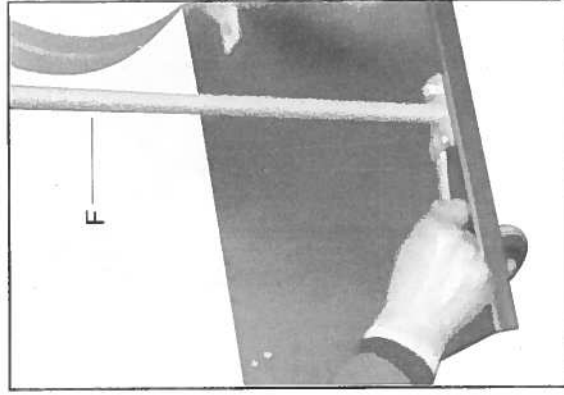
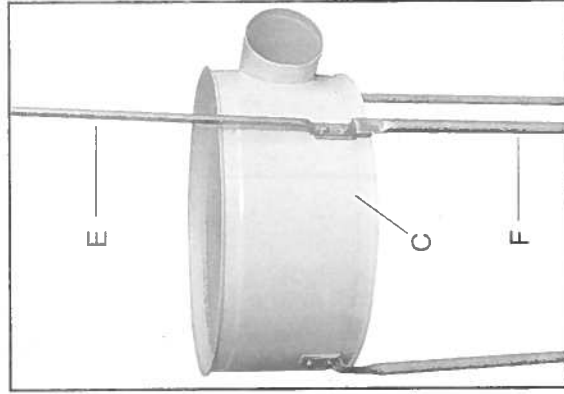

Fig. 5
Fig. 6
The collector rim supports (F) can now be mounted to the base plate as shown in Fig. 5 and Fig. 6.
Now attach the collector rim (C) to the two collector supports, making sure the side hole is facing the collector body as shown in Fig. 6.